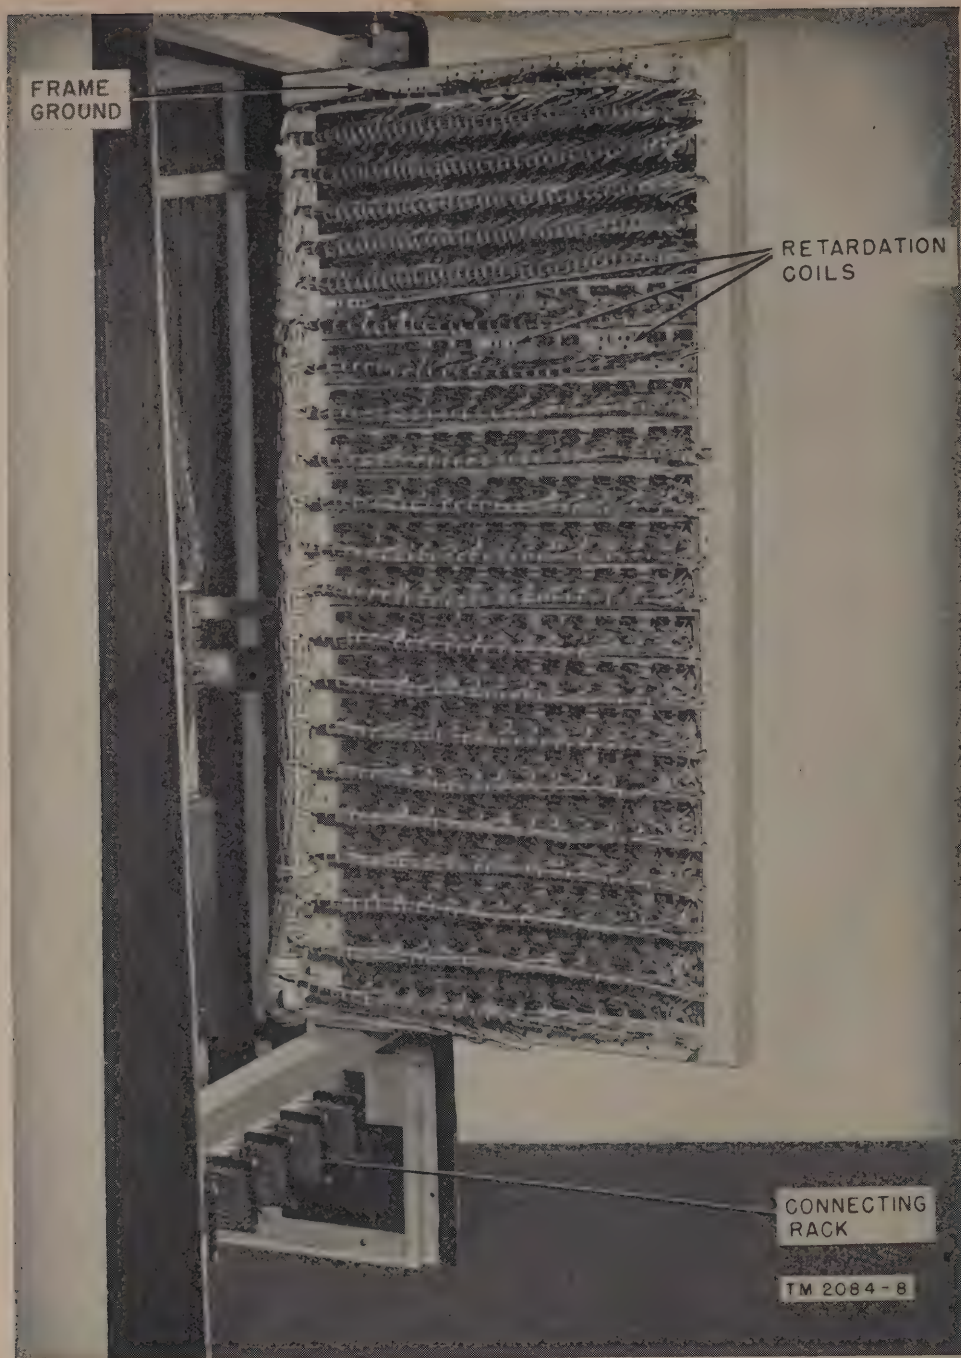

Figure 6. Telephone Switchboard SB-55(\*)/FTC, inside view of relay gate showing frame ground and wiring.
- (2) Telephone Switchboard SB-55(\*)/FTC has the frame grounded as shown in figure 6.
- (3) Power supply should be grounded at the source. If batteries are used, be sure to ground them through nearest water pipe or another qualified substitute. For detailed information on grounding, see TM 11-676.